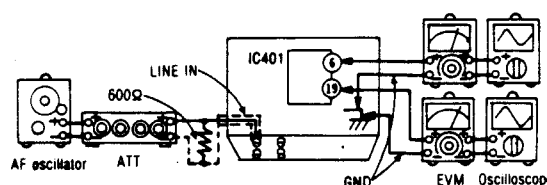

Fig. 10
1. Test equipment connection is shown in Fig 10.
3. Adjust by attenuator so that the output between terminal ① (L-CH) (terminal ② (R-CH)) of IC401 and ground is 12.3mV.